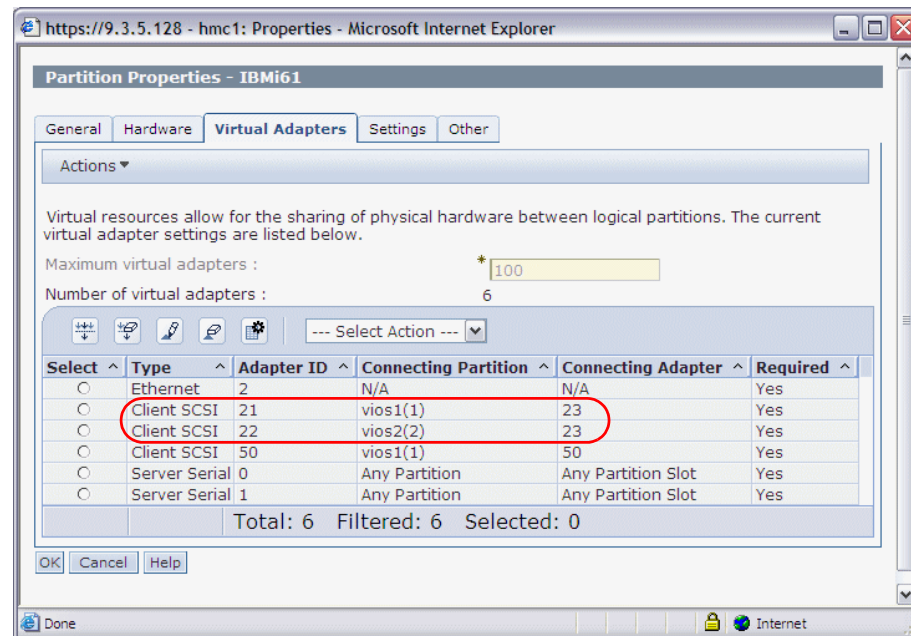

Figure 2-11 IBM i partition profile virtual adapters configuration
1. We first look at the virtual adapters mapping in the IBM i partition properties on the HMC as shown in Figure 2-11. Since the Sys Card 21 and 22 information from the IBM i client corresponds to the virtual SCSI adapter slot numbers, the partition properties information shows us that the IBM i client